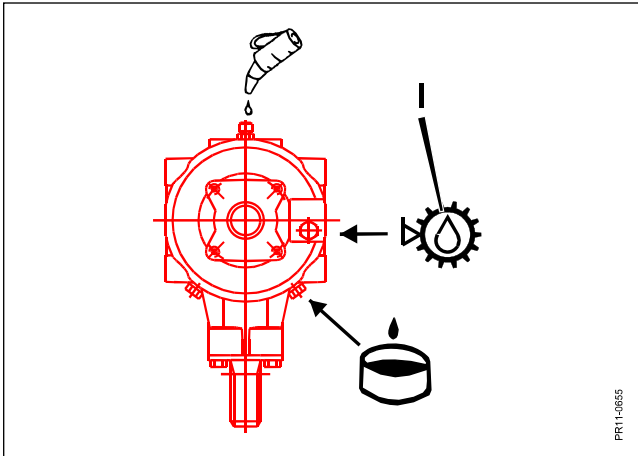

Fig. 4-5
- Fig. 4-5** Oil content:  0.9 l